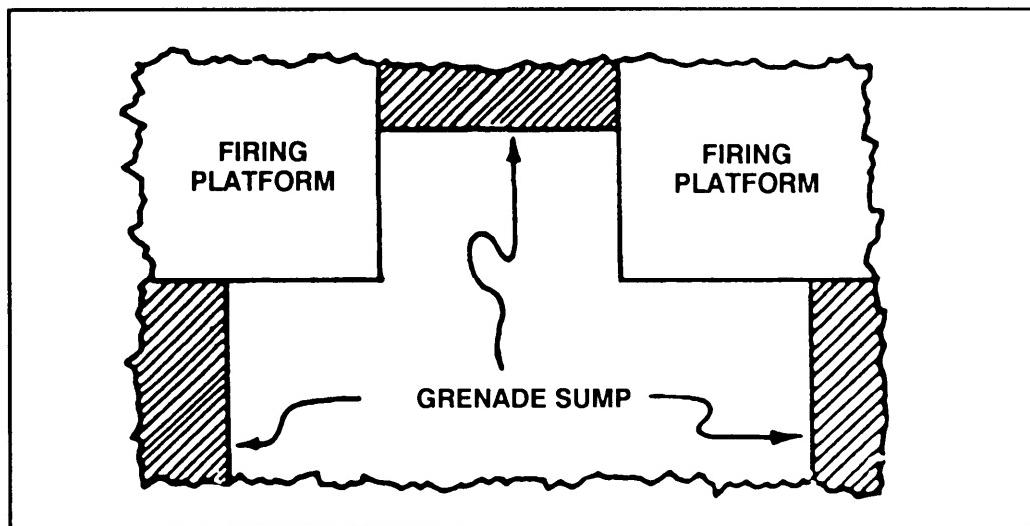

Figure D-4. Digging grenade sums.
(1) The crew digs three trench-shaped grenade sums at various points where the crew can kick grenades into them (Figure D-4).